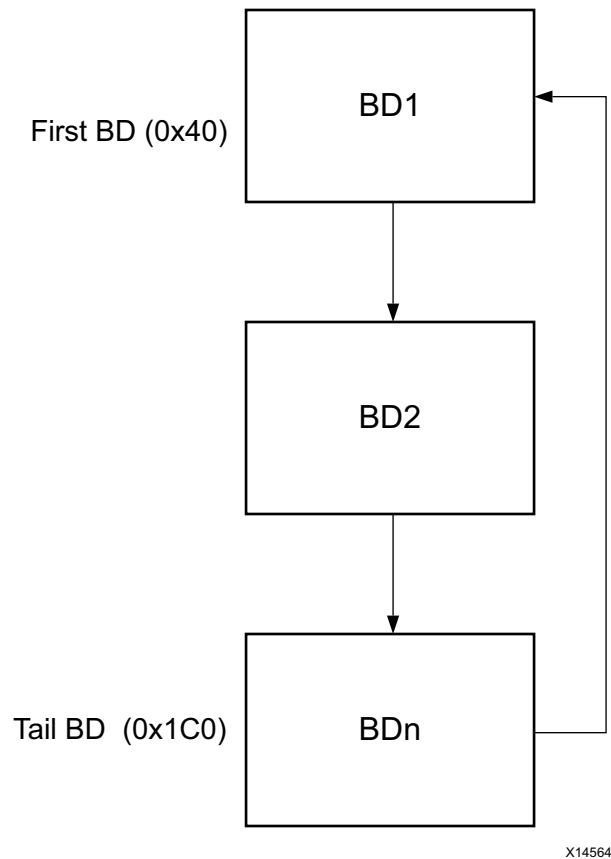

Figure 3-2: **BD Chain**
AXI DMA can be run in cyclic mode by making certain changes to the Buffer Descriptor (BD) chain setup. In cyclic mode, DMA fetches and processes the same BDs without interruption. The DMA continues to fetch and process until it is stopped or reset. To enable cyclic operation, the BD chain should be set up as shown in Figure 3-2.